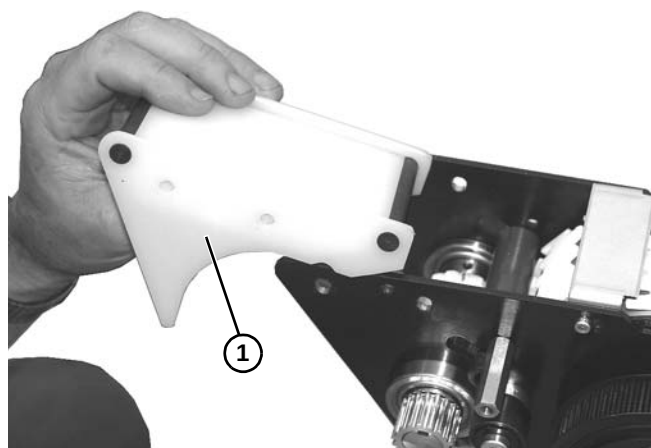

Figure 109
10. Remove wear bar assembly (**Figure 109, item 1**) from power transfer.